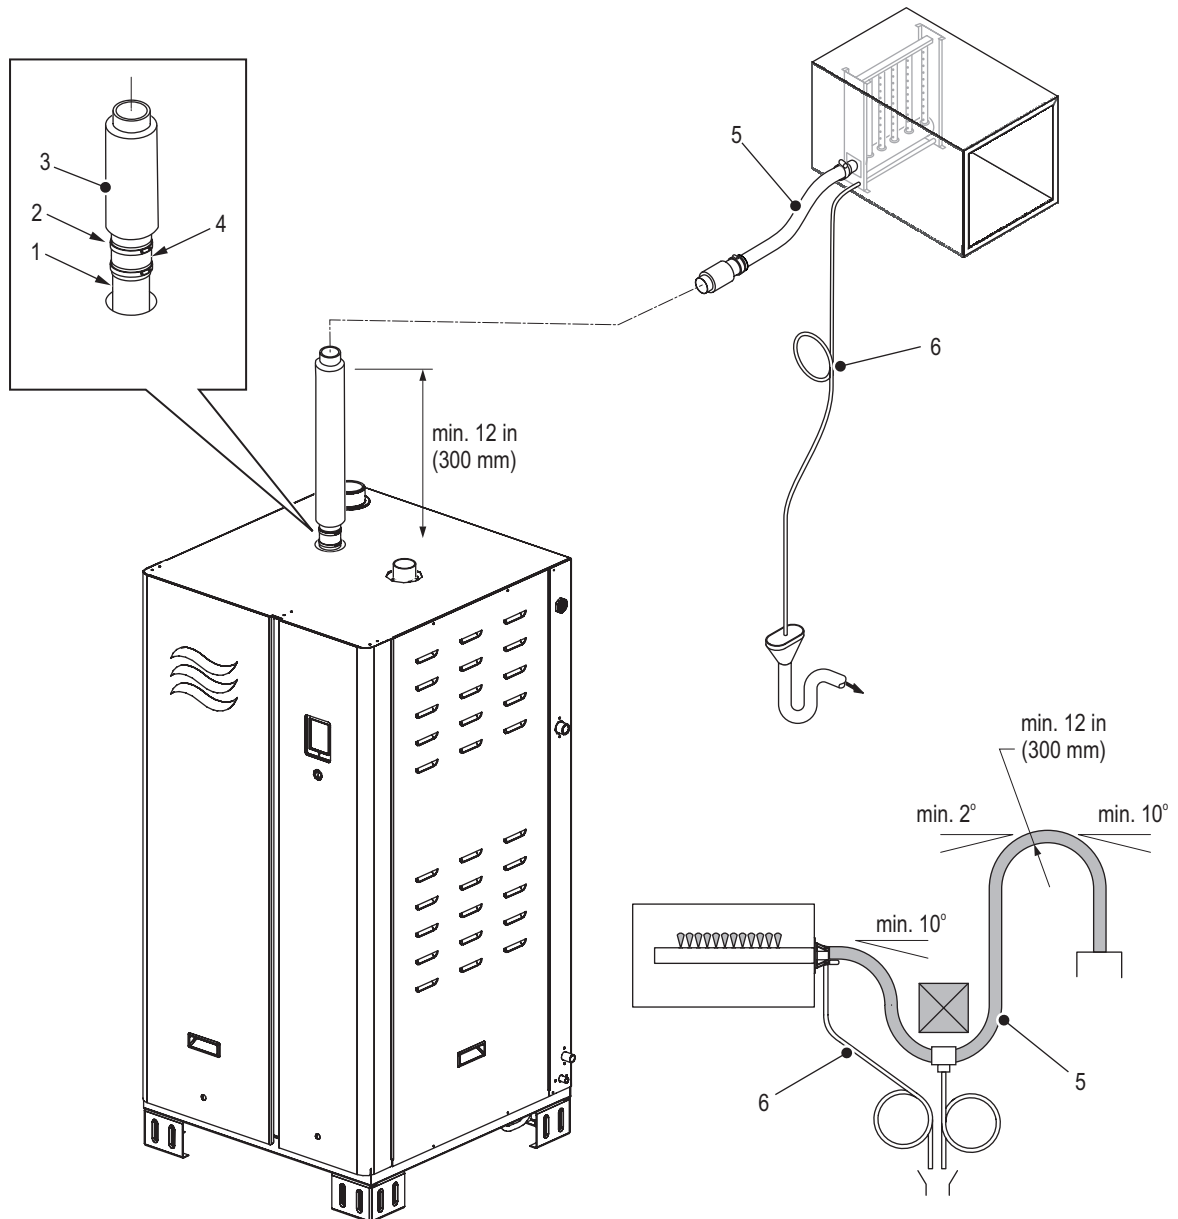
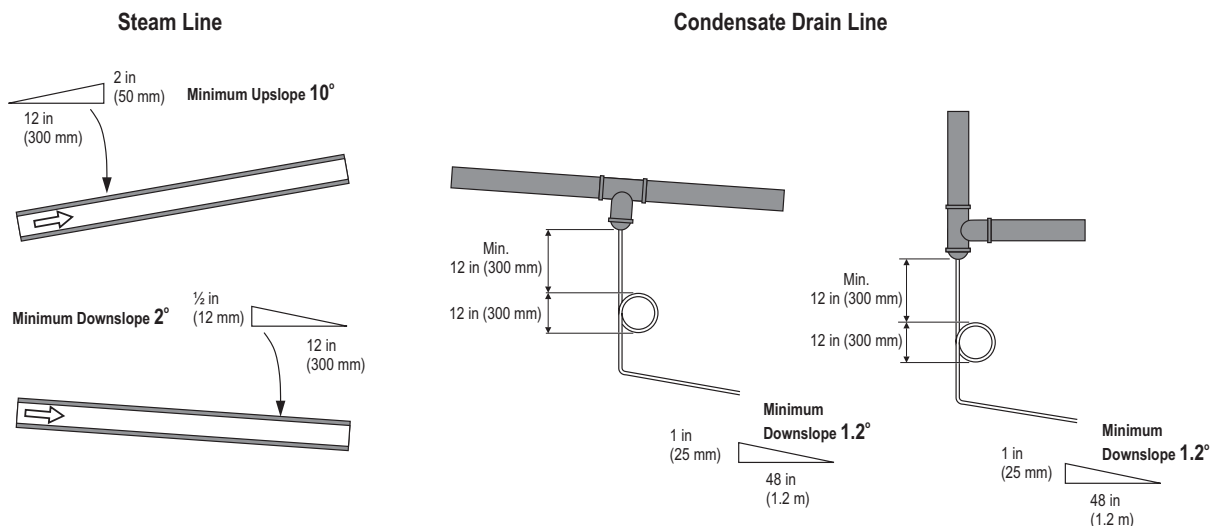

Figure 12: Main Steam Line Installation
Figure 13: Steam and Condensate Line
- The steam line from the humidifier must lead straight upwards for a minimum of 12 in (300 mm), before continuing on to the steam distribution system – refer to Figure 12 on page 36. The steam line must have a minimum upslope of 10°, or a minimum downslope of 2° – refer to Figure 13 on page 38.
- Condensate traps must also be installed at all low points and at horizontal-to-vertical transitions in the steam line. The condensate drain lines should always connect to full-size "Tee" connectors in the steam line. Refer to Figure 13 on page 38.